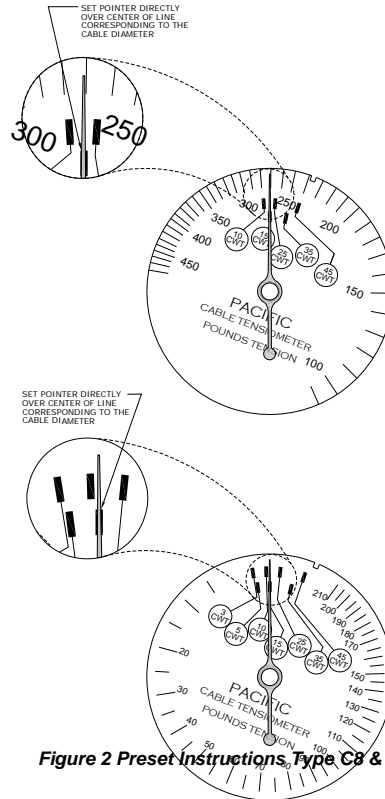

Figure 2 Preset Instructions, Type C8 & C9 British
- TYPE C8** – To Pre-set Dial: Rotate knurled rim of pre-set dial until the pointer is directly over the line corresponding to the cable diameter (See Fig 2). With the dial properly aligned with the correct cable size, repeat step 1. b.
- TYPE C9** – To Pre-set Dial: Rotate knurled rim of pre-set dial until the pointer is directly over the line corresponding to the cable diameter (See Fig 2). With the dial properly aligned with the correct cable size, repeat step 1. b.